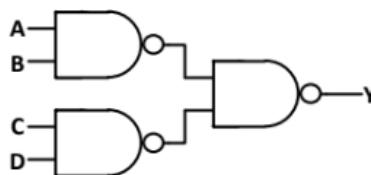

Fig. 3.6
18. Find the logic function implemented by the circuit given below in Fig. 3.6